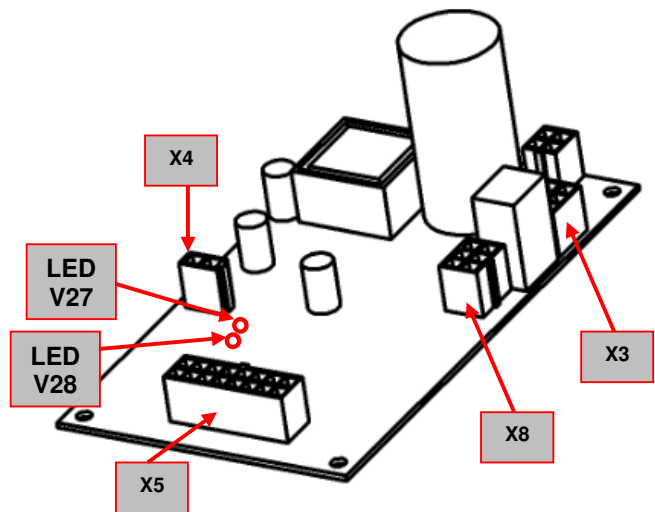

Figure 1a – Y035-1 Test point locations
6. Using the multimeter perform the tests as indicated in **Test Table 1**. See **Figure 1a** for correct test points location.